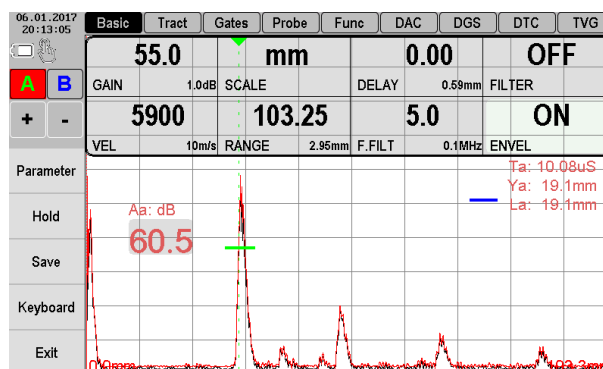

Figure 2.43 – Turning on the mode of amplitude envelope
- Turn on the mode of amplitude envelope («ENVEL») and settle the maximum signal in A-gate from the nearest (first) reflector (Figure 2.43).